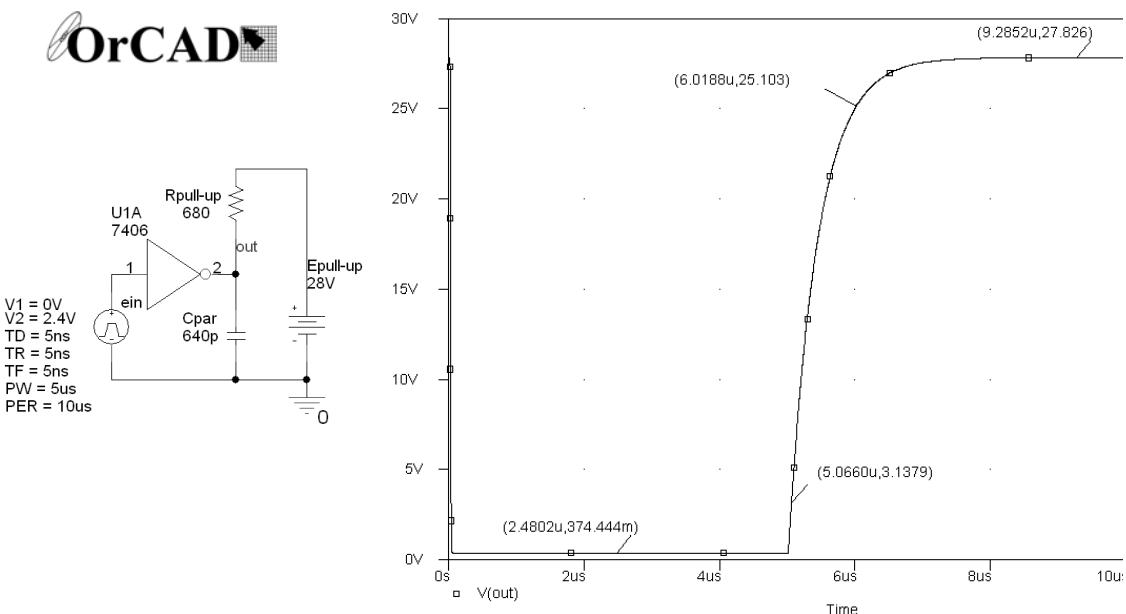

Figure 6-13 OrCAD simulation for Example 6-6
3. The results of the OrCAD simulation are shown in Figure 6-13. It indicates a rise time of